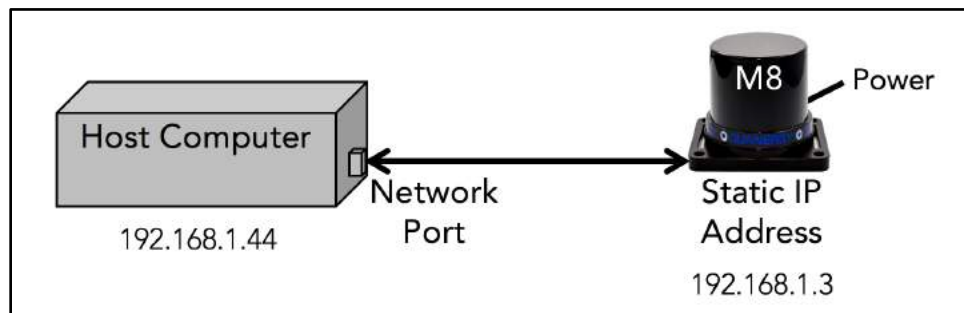

Figure 18. Sensor Connections with Static IP Address
1. Connect the sensor directly to the host computer's network port (Figure 18).
- **For static:** Instead of staying directly plugged in (Figure 18), you may connect the sensor to the same network as the host computer.